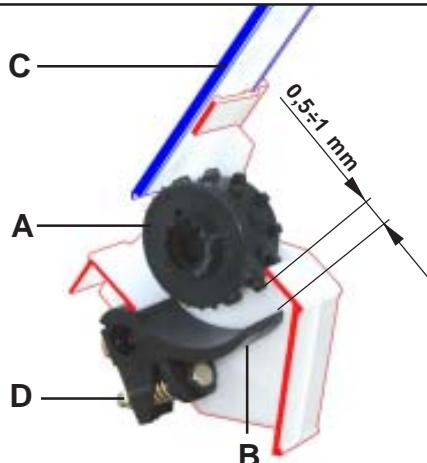
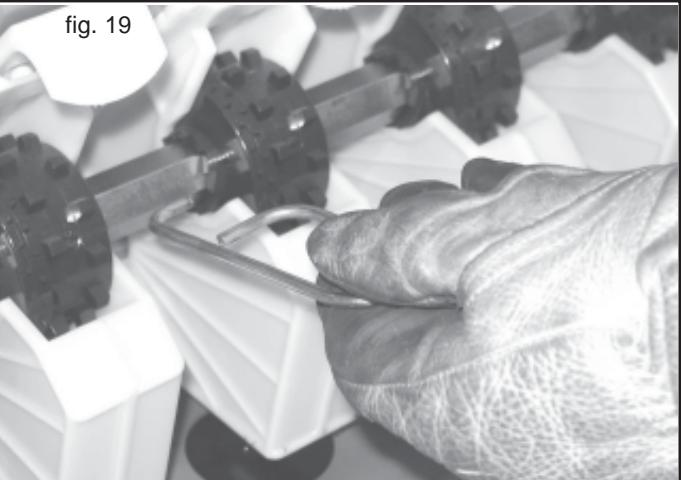
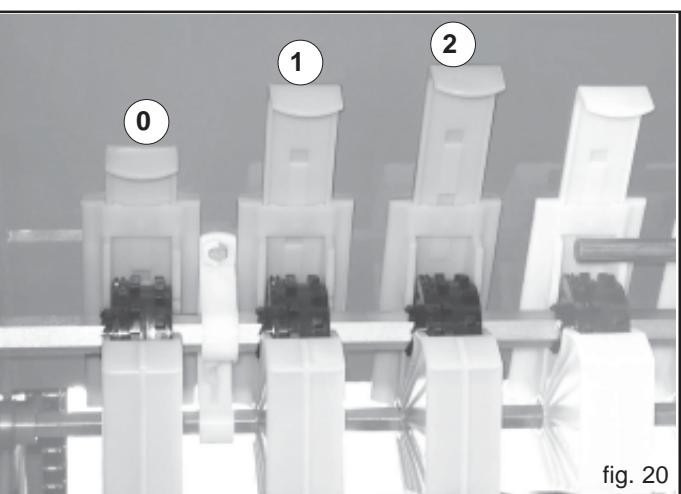

fig. 18
fig. 19
fig. 20
If the feelers (B Fig. 18) are correctly positioned, they assure a fluid and constant distribution of the seeds.
For best seeding results, periodically check the position of the feeler pins (B): adjust the distance between the feeler and the distributor roller (A) by means of the nut (D) to 0,5 ÷ 1 mm (Fig. 18).
The most appropriate type of seed distributor roller must be selected prior to sowing on the basis of the type of seed being planted (A Fig. 18). The machine is fitted with rollers for small, medium and large seeds. Select the type of distributing roller according to the information given in Table 4 (page 44). Which is selected by inserting the key supplied (Fig. 19) into the slot on the left side of the roller and push the drag retainer all the way out. Perform the a.m. operation in inverse order to return the roller to its initial position.
The discharge mouth closing blades (C Fig. 18) for the discharging of the seeds from the hopper, have **three adjustment positions** (Fig. 20):